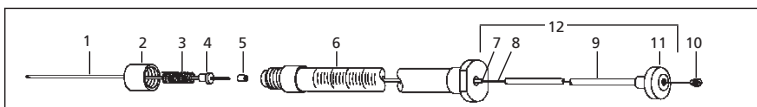

Figure 1. Exploded view of plunger-in-needle syringe
(Refer to figure 1, 2 and 3):
- As illustrated in figure 1, a small PTFE Seal (5) is located inside the glass barrel around the plunger and located at the back end of the needle. This seal should not require replacement in general use but if it becomes dislodged or damaged it can be replaced as follows:
- Loosen cover nut (2) and withdraw plunger assembly.
- Remove cover nut (2), needle (1) and spring (3).
- Remove old seal (5) by inserting an old plunger with a blunt tip.
- Hold insertion tool assembly in one hand and syringe barrel in the other and insert seal (13) and tube (14) into the small hole in the glass barrel where the needle normally fits. Then withdraw wire (15) about 5 mm which will leave the seal in position.
- Replace needle (1) and cover nut (2), ensuring spring (3) is located on needle stop (4). **DO NOT TIGHTEN NUT.**
- Tighten cover nut (2).